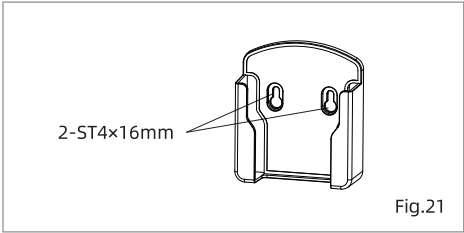

Fig.21
1. Choose a convenient location to place the wired controller base. The connection between the wire controller and the water heater should be reasonably arranged according to the specific environment. Fix the bottom controller holder with the two screws ST4x16 mm provided (Fig.21) and place the controller into the bracket.